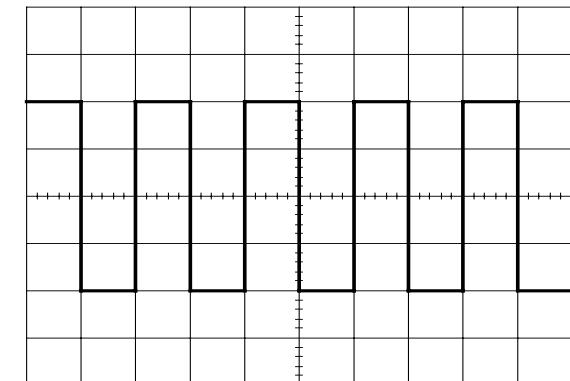

Figure 4-3
- 5) Set the AC-DC-GND switch to the AC state. A waveform as shown in the figure 4-3 will be displayed on the CRT screen
- 8) Adjust the ΔV POSITION and \leftrightarrow POSITION controls in appropriate positions so that the displayed waveform is aligned with the graticule and voltage(Vp-p) and period(T) can be read conveniently. The above are the basic operating procedures of the oscilloscope. The above procedures are for single-channel operation with CH 1. Single-channel operation with CH 2 can also be achieved in a similar manner. Further operation methods are explained in the subsequent paragraph.